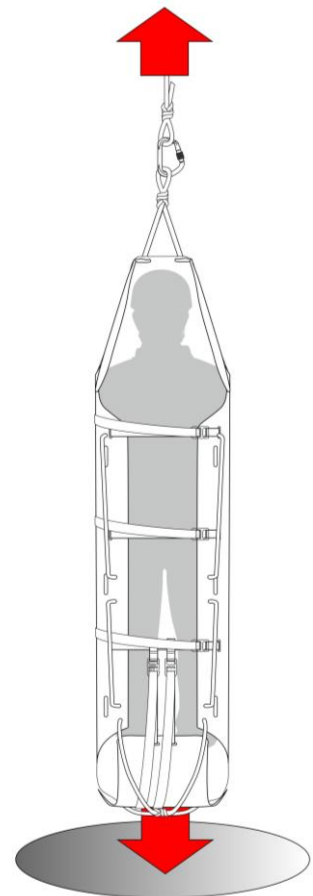

Fig. 5
- vertical lowering and/or lifting by means of the rope using rescue devices (H) - (fig. 5), 1:10 = user load: 150 kg